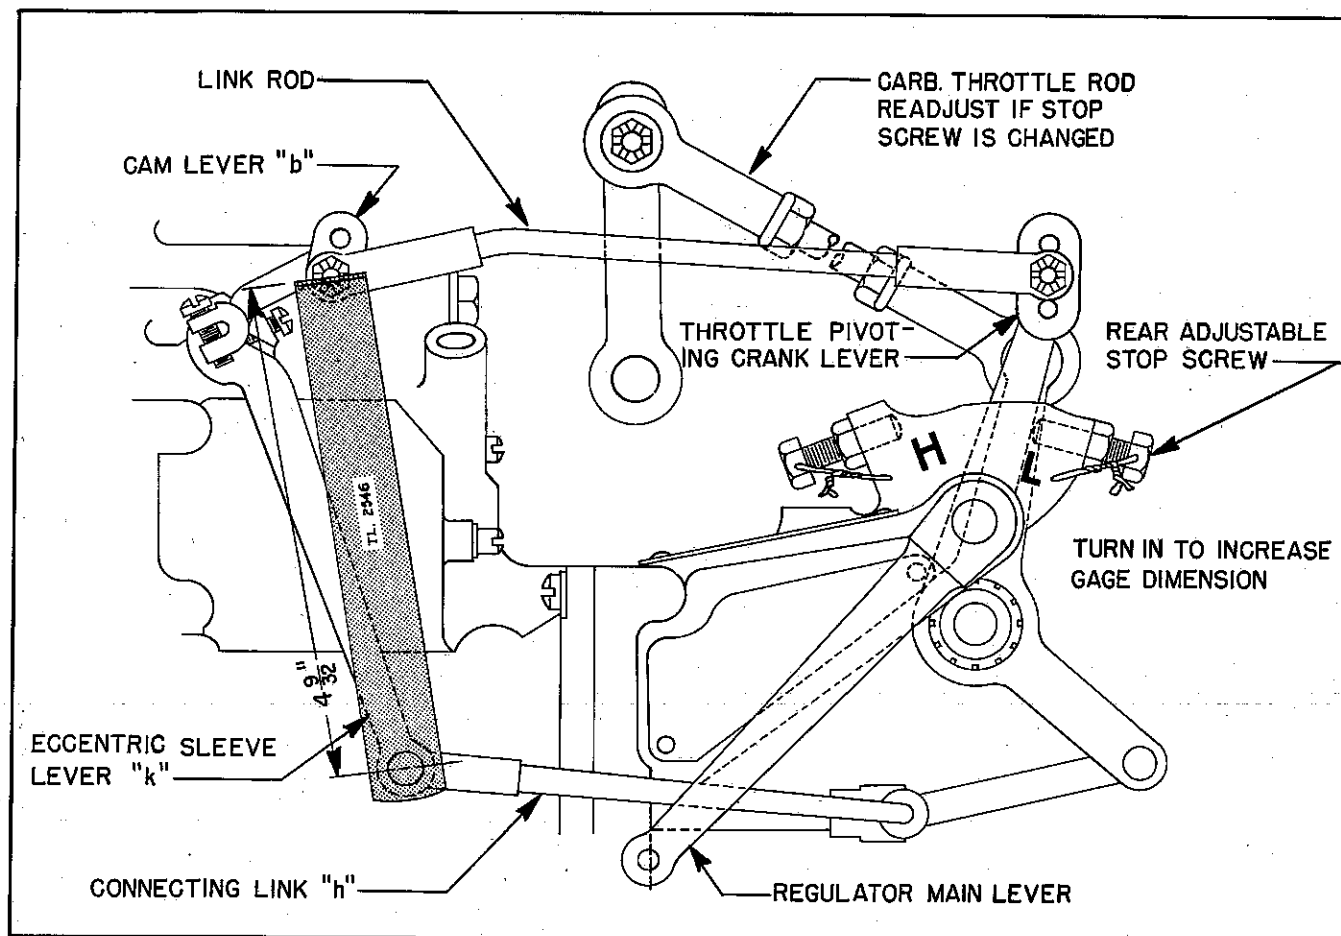

Figure 100—Checking Regulator Cam Lever Minimum Position.
(d) To insure that the replacement regulator linkage has not been sprung or damaged in storage or shipment, which could result in the throttle control mechanism locking in the fully closed position, the following check should be made. This check is made by measuring the distance between the points shown in Figure 100.
2. Use Manifold Pressure Regulator Cam Lever Minimum Position Gage, No. 2546, and gage the minimum position of the cam lever. Place the hole in the lower end of gage over the fillister head of the bolt, which attaches the sleeve lever "k" to the connecting link "h". Place the upper end of the gage against the pressure selecting cam lever "b". (See Figure 100.)
If gage No. 2546 is not available, this distance can be measured with a scale as shown in Figure 100.
3. If the centerline of the link connecting hole No. 1 in the cam lever "b" is in line with or above the upper edge of the gage, the minimum position of the linkage is satisfactory. If the centerline of the link is below the upper edge of the gage, loosen the locknut on the rear adjustable stop screw, then turn the latter clockwise (without breaking the seal) until the centerline of hole No. 1 is on a line with the upper edge of the gage. (See Figure 100.) Since one half to three quarters of a turn should be sufficient this adjustment can be made without breaking the seal. It will be necessary to readjust the length of the carburetor throttle rod if the setting of the adjustable stop screw is changed.